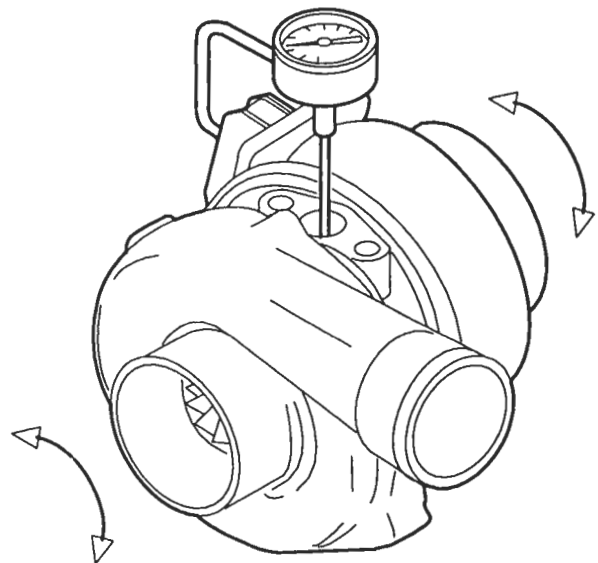

Figure 13. Checking Shaft Radial Movement
- a. Position the magnetic base J 7872-2 with the swivel adaptor J 7872-3 on the flat surface of the turbine housing inlet flange (Figure 13.)